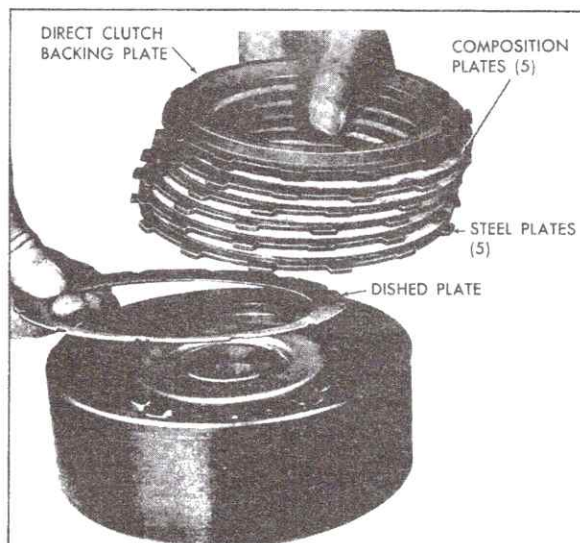

Fig. 7-184 Installing Direct Clutch Plates
- g. Lubricate the five flat and one dished steel and five composition clutch plates with transmission fluid and install clutch plates in direct clutch housing. Start with dished steel plate and alternate flat steel and composition plates, Fig. 7-184.